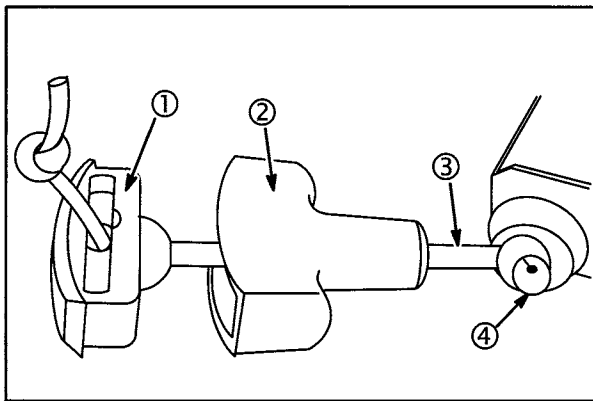

**Fig. 50**
1. Remove four screws and rewind starter (1), **Fig. 50**.